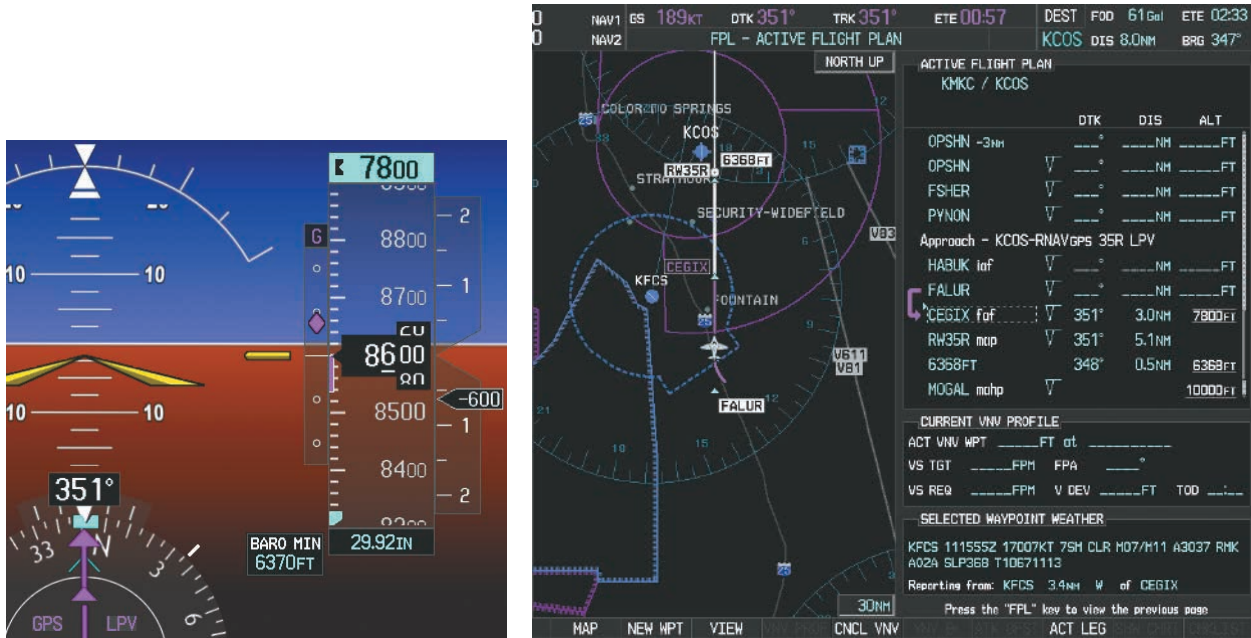

Figure 5-148 Descending to the FAF
- 23) After crossing FALUR the next waypoint is the FAF. The flight phase changes to LPV on the HSI indicating the current phase of flight is in Approach Mode and the approach type is RNAV LPV. CDI scaling changes accordingly and is used much like a localizer when flying an ILS approach. The RVSI is no longer displayed and the VDI changes to the Glidepath Indicator (as shown in Figure 5-148) when the final approach course becomes active.
The descent continues through the FAF (CEGIX) using the Glidepath Indicator, as one would use a glideslope indicator, to obtain an altitude "AT" 7,800 feet at the FAF. Note the altitude restriction lines over and under (At) the altitude in the 'ALT' field in Figure 5-148.